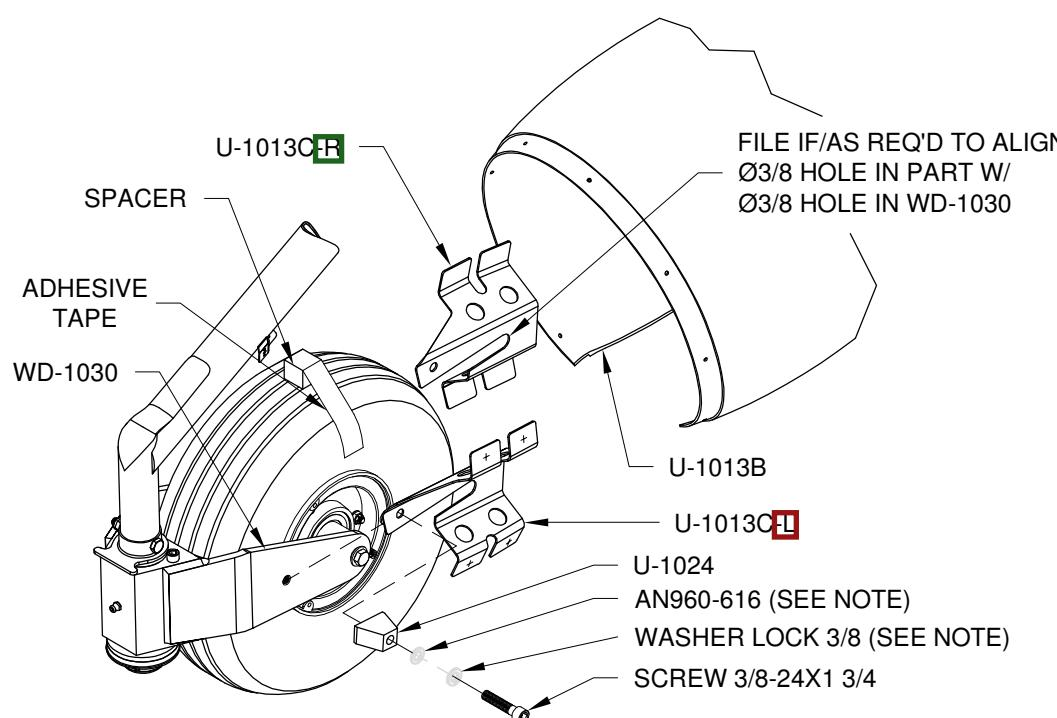

FIGURE 2: ATTACHING THE BRACKETS AND THE WHEEL FAIRING
Step 2: Tape the spacer to the top of the tire as shown in Figure 2. Slide the U-1013C_R Nose Wheel - Fairing Bracket onto the axle at the gap in the washer stack-up and then bolt it to the WD-1030 Nose Fork using the hardware shown. **NOTE: Omit the two washers until the access hole is drilled.** Slide the U-1013B Wheel Fairing Rear into place. Slide the U-1013C_L Nose Wheel - Fairing Bracket into place between the wheel fairing rear and the nose fork bolting it to the nose fork as per the callouts.